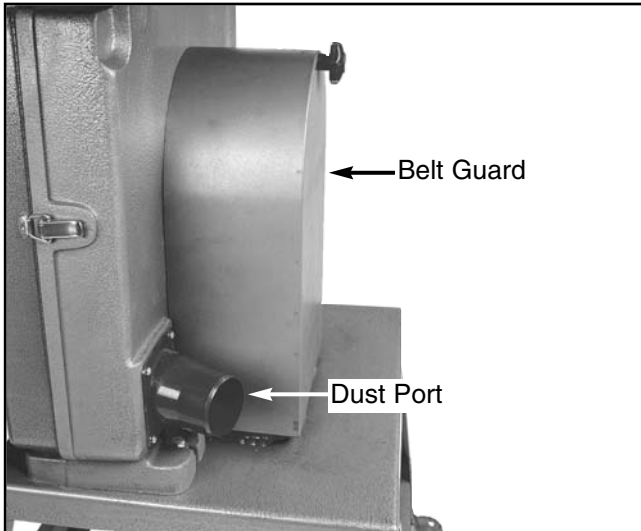

Figure 15. Belt guard and dust port mounted correctly on bandsaw.
Place the belt guard over the step pulley and secure it, as shown in **Figure 15**, to the stand using the 1/4"-20 x 1/2" hex head bolts, washers, and nuts provided. Fasten the guard to the band-saw by inserting the threaded rod through to the body casting and tightening the knob.
1. Remove the four dust port mounting screws from the bandsaw body and position the dust port as shown in **Figure 15**.